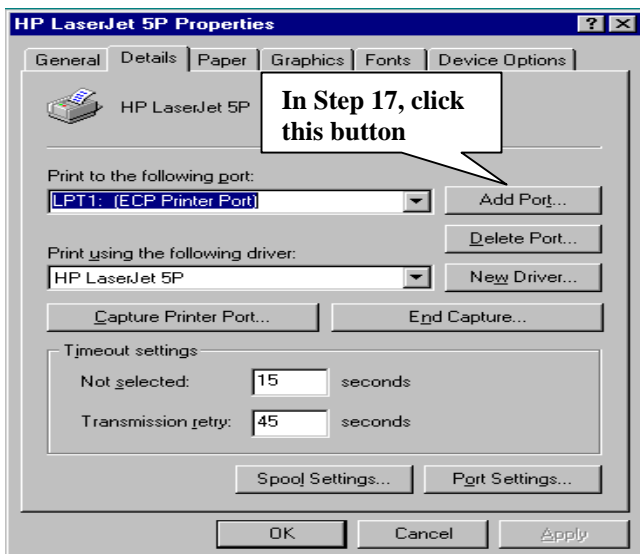

Figure 4-8
16. Click **Details** as shown in Figure 4-8.
17. Select **Add Port**, as shown in Figure 4-8.